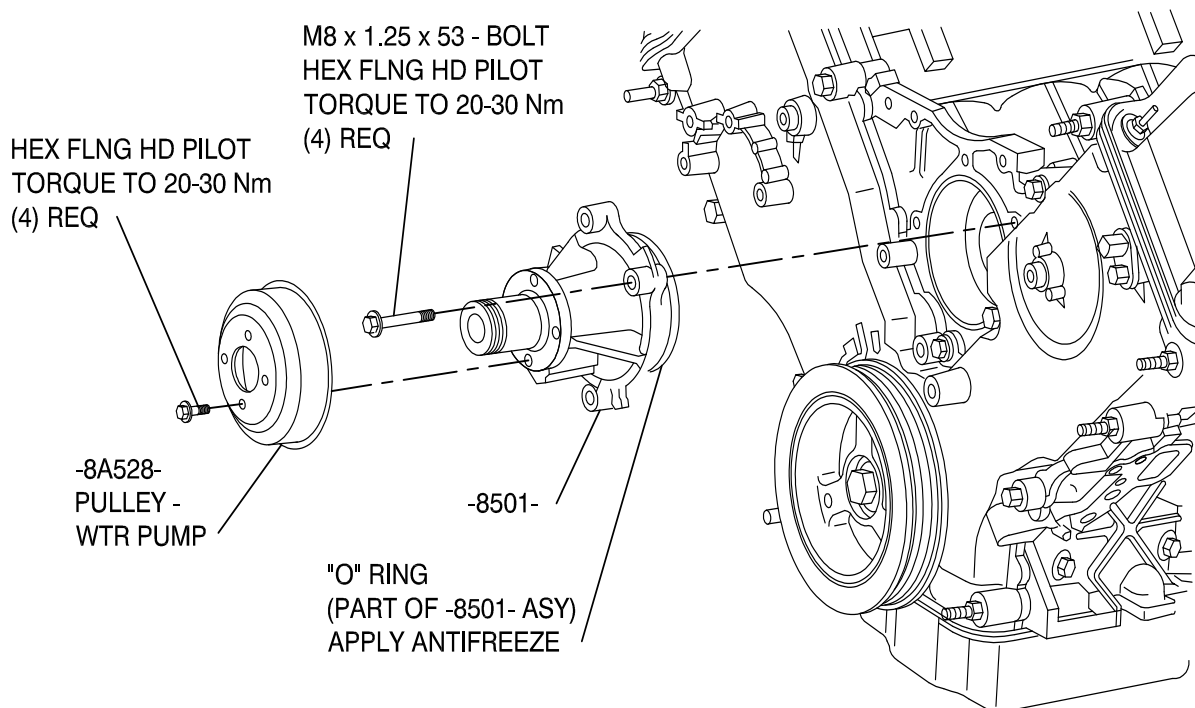

Figure 31. Re-attach Pulley Water Pump to Water Pump Assembly
3. Re-attach -8A528-pulley -water pump to -8501-water pump assembly with 4 bolts torque to 20-30 Nm (15-22 lb-ft). See Figure 31.